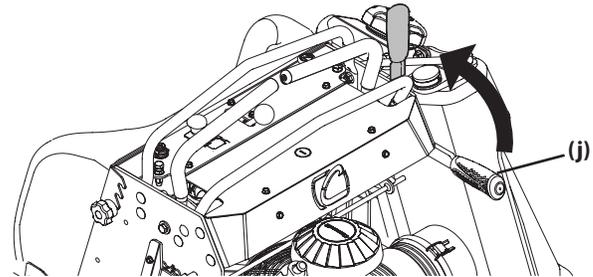

Figure 3
6. To engage the parking brake, pull back completely on the parking brake lever (j) (Figure 3).